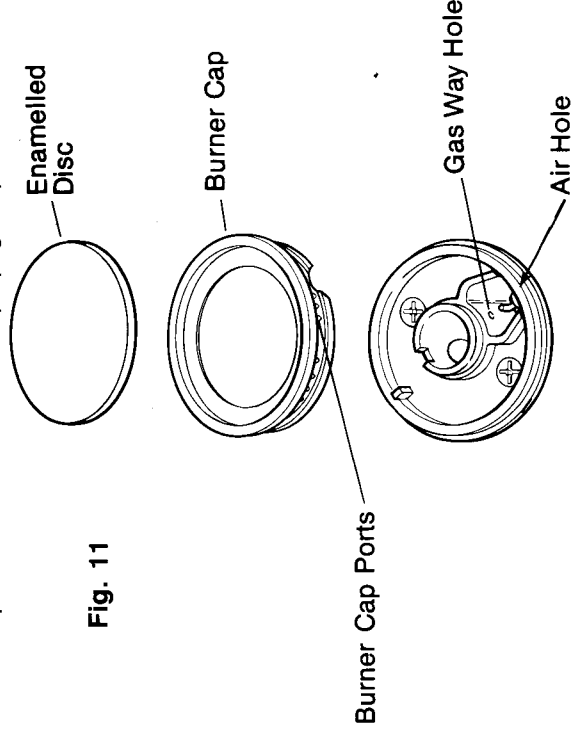

Fig. 11
** When refitting a hotplate burner cap, (which are all interchangeable) position it onto the burner body and turn it until it drops into place. Replace the burner cap disc, enamelled side up. (Fig. 11).